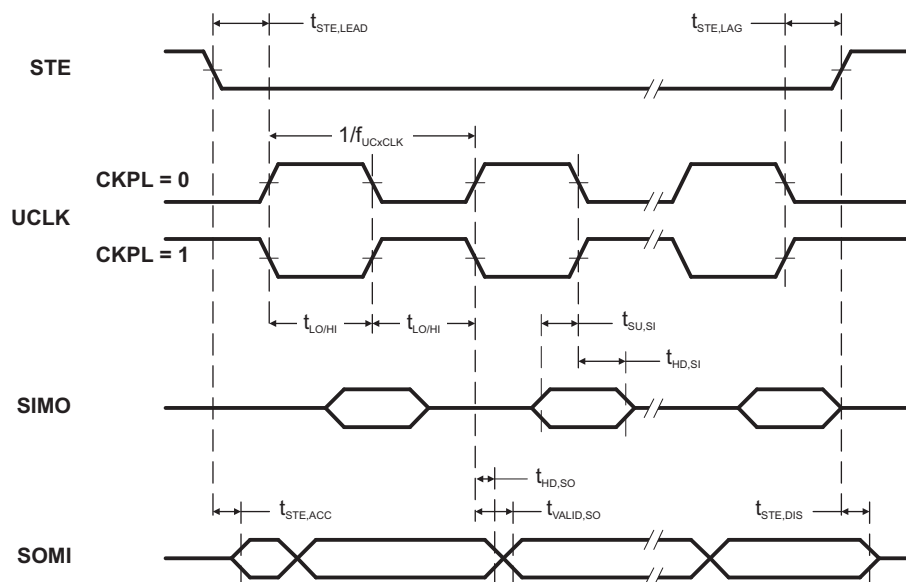
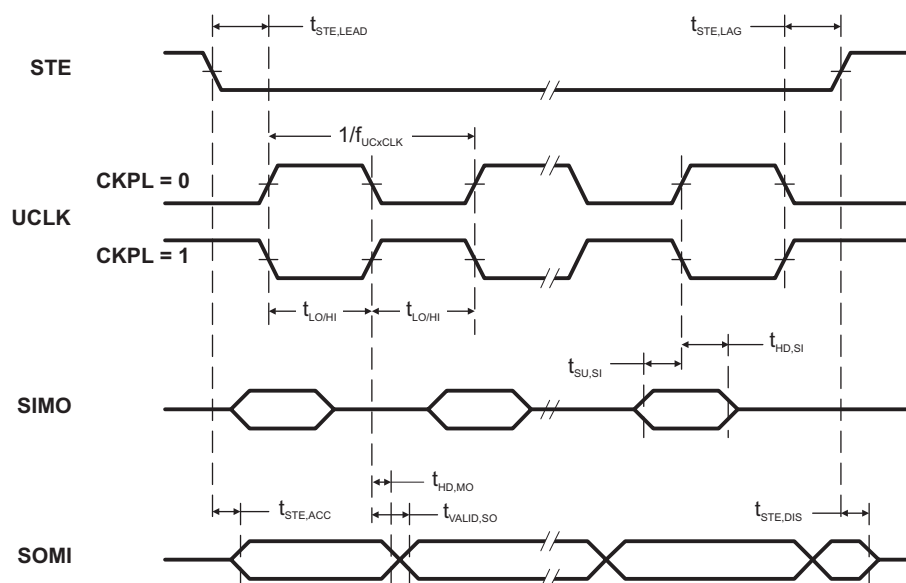

Figure 5-13. SPI Slave Mode, CKPH = 0
Figure 5-14. SPI Slave Mode, CKPH = 1
(see Figure 5-13 and Figure 5-14)
- (1) f_{UCXCLK} = 1/2t_{LO/Hi} with t_{LO/Hi} ≥ max(t_{VALID,MO(Master)} + t_{SU,SI(USCI)}, t_{SU,MI(Master)} + t_{VALID,SO(USCI)}). For the master parameters t_{SU,MI(Master)} and t_{VALID,MO(Master)}, see the SPI parameters of the attached slave.
- (2) Specifies the time to drive the next valid data to the SOMI output after the output changing UCLK clock edge. See the timing diagrams in Figure 5-13 and Figure 5-14.
- (3) Specifies how long data on the SOMI output is valid after the output changing UCLK clock edge. See the timing diagrams in Figure 5-13 and Figure 5-14.